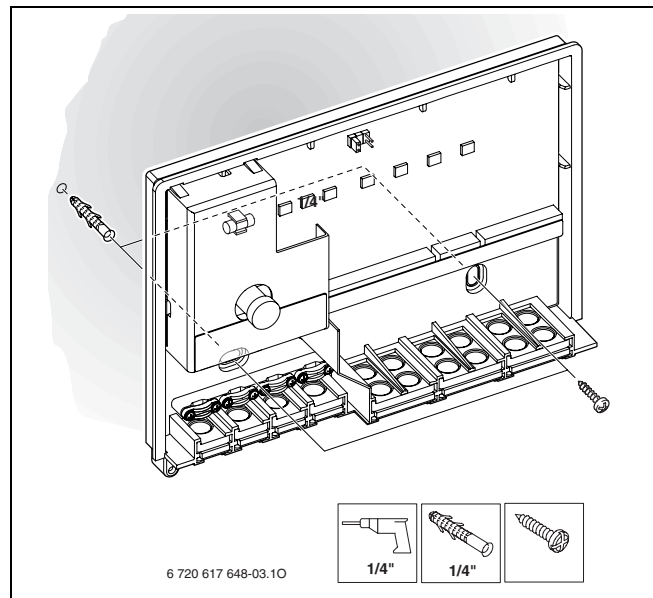

Fig. 8 Insert wall anchor
- ▶ Drill \varnothing 1/4" (6 mm) holes and insert wall anchors (→ Fig. 8).